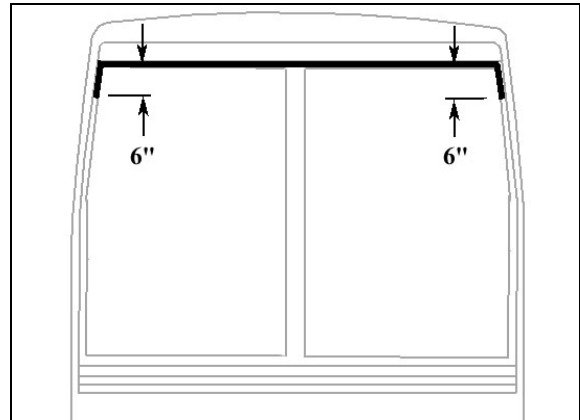

FIGURE 52: APPLICATION OF SIK 221 BLACK
- At the top of windshield, clean surface between fiberglass and rubber extrusion using Sika 205 (Fig.52).